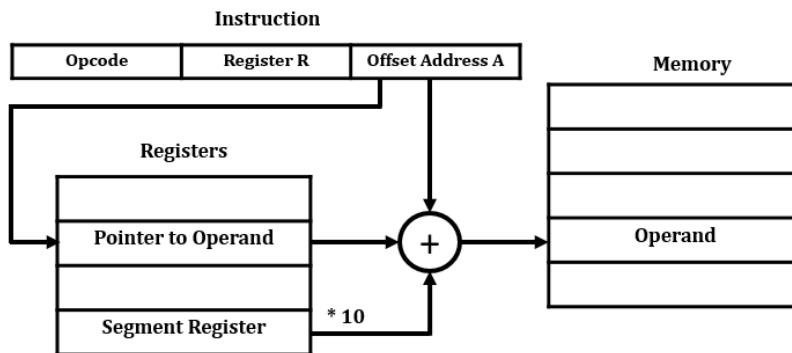

Figure 2.9: Register Relative Addressing Mode.
- This sum is added with the segment register \* 10 H to generate Effective Address as shown in figure 2.9.